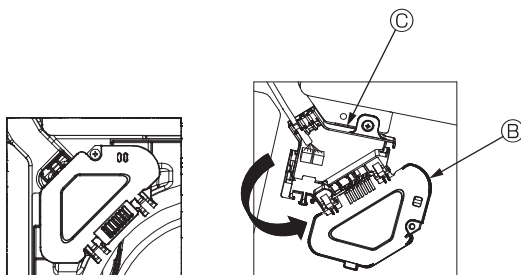

Fig. 7-7
- ③ Remove the one screw securing the connector box cover, and then open the cover. (Fig. 7-7)
- ④ Place the junction wire connector in the connector box.
- ⑤ Install the wire cover and connector box cover.